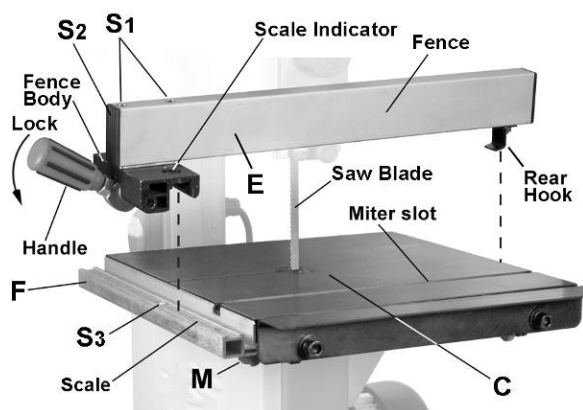

Figure 6
Referring to Figure 6:
2. Place *fence assembly* (E, Fig. 6) onto the *table* (C) at the miter slot.